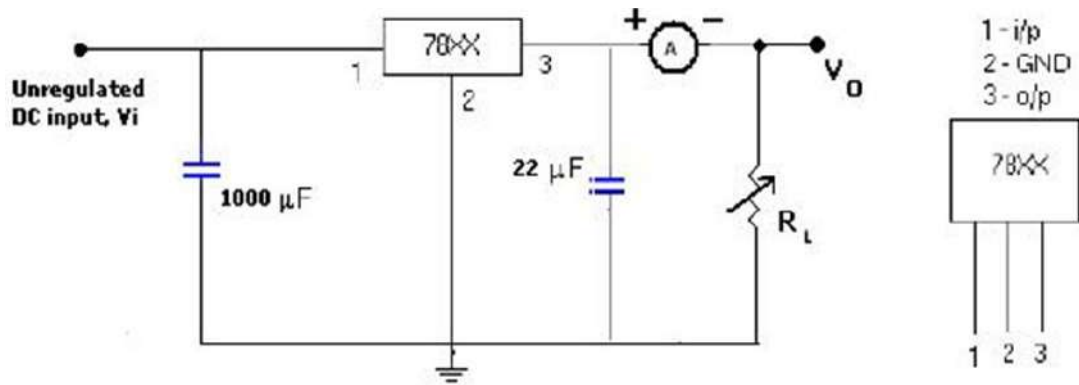

Figure.1 Fixed Positive Voltage regulator
1. Connect the circuit as per diagram figure 1.